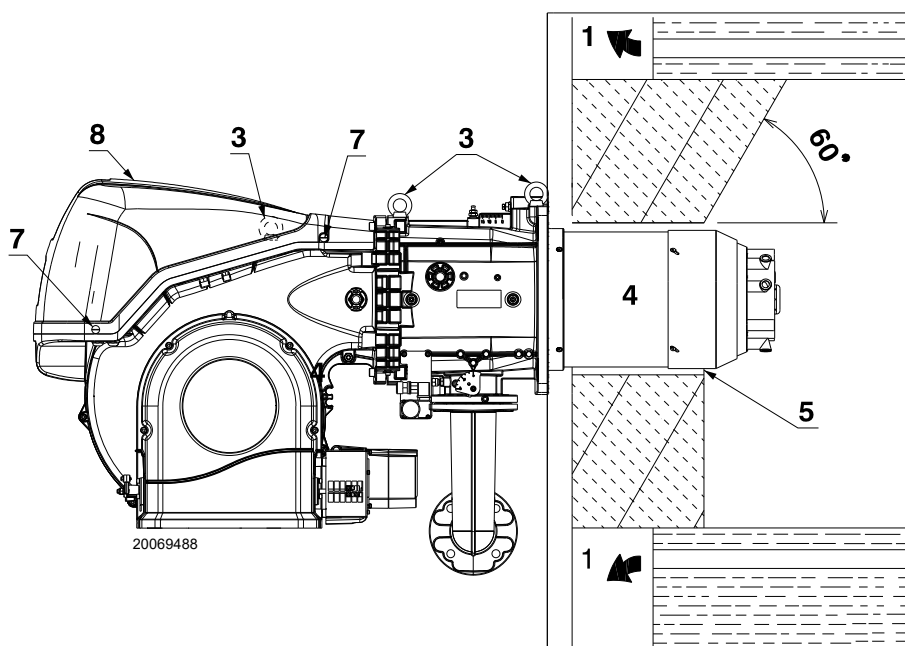

Fig. 11
Prepare a suitable lifting system using the rings 3)(Fig. 11), after removing the fixing screws 7) of the casing 8).
- Fit the heat insulation supplied onto the blast tube (4)(Fig. 11).